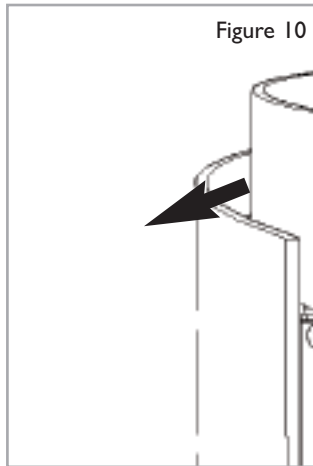

Figure 10
**Corinthia models :** The glass panel is supported by two self-locking M6 screws, one on each side of the fire as shown in figure 10. The glass panel must be held in position while the screws are inserted on each side - it is recommended to seek assistance for this operation. The screws should be screwed in fully and then undone one turn to allow the glass panel to swing open for access to the controls. The appliance features a piston damper assembly. The damper assembly should be fitted onto the rear of the glass facia, on the lower right hand side as follows: